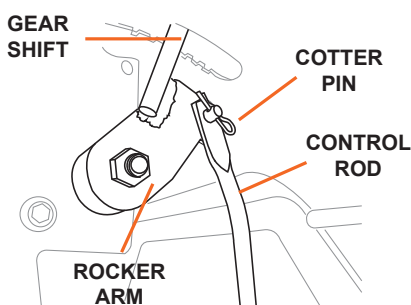

Figure 4
4. Attach the gear shift rod to the rocker arm on the under side of the control panel and secure with a cotter pin (see Figure 4).